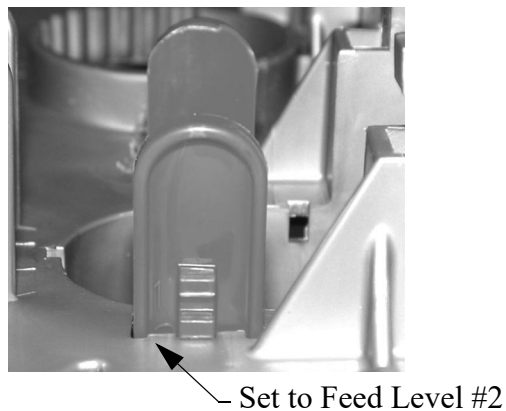

Figure 33. Feed Tube Setting
2. Feed Level Setting set on #2. **See Figure 33.**